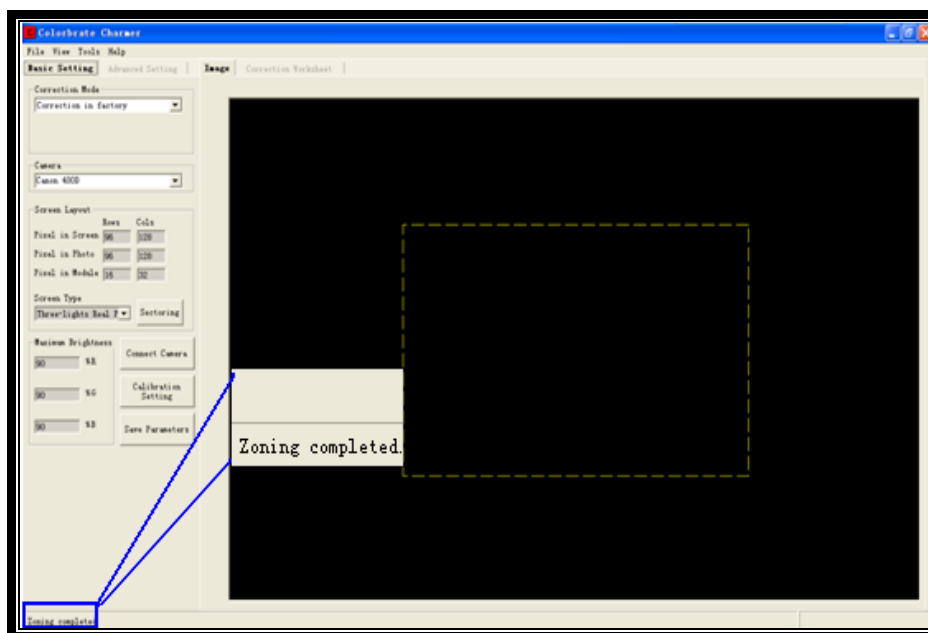

Fig.3-10
Step9: Click the “Sectoring” button in the frame of **Screen Layout**, as shown in Fig. 3-9. Then the software will divide the screen area automatically. After a few seconds, the completed message pops up at lower left corner of the window, as shown in Fig. 3-10